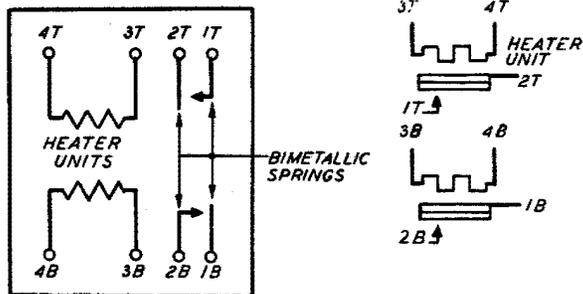

Fig. 47 - Winding and Spring Terminal Arrangement as Viewed From the Rear (terminal side) - 235-Type Relays
2.54 Facing the front of the relay the contact springs are numbered consecutively from left to right. Facing the rear the contact and heater unit terminals are numbered from right to left as shown in Fig. 47. The terminals are designated by a number followed by T or B de-